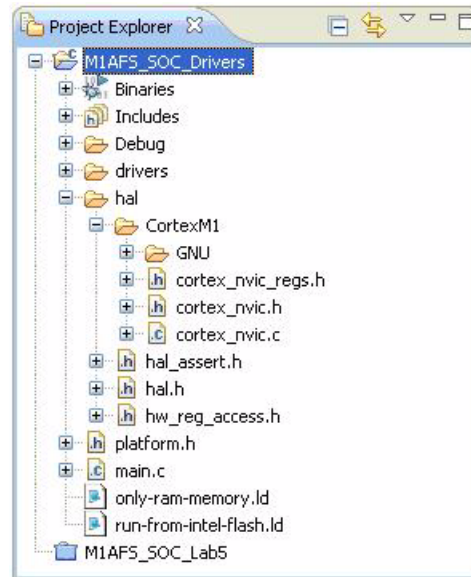

Figure A-5 · HAL Folders in Project Explorer View
7. Click **Finish**. The HAL folders and source files (hal, hal\CortexM1 and hal\CortexM1\GNU) will appear in the SoftConsole Project Explorer view (Figure A-5).